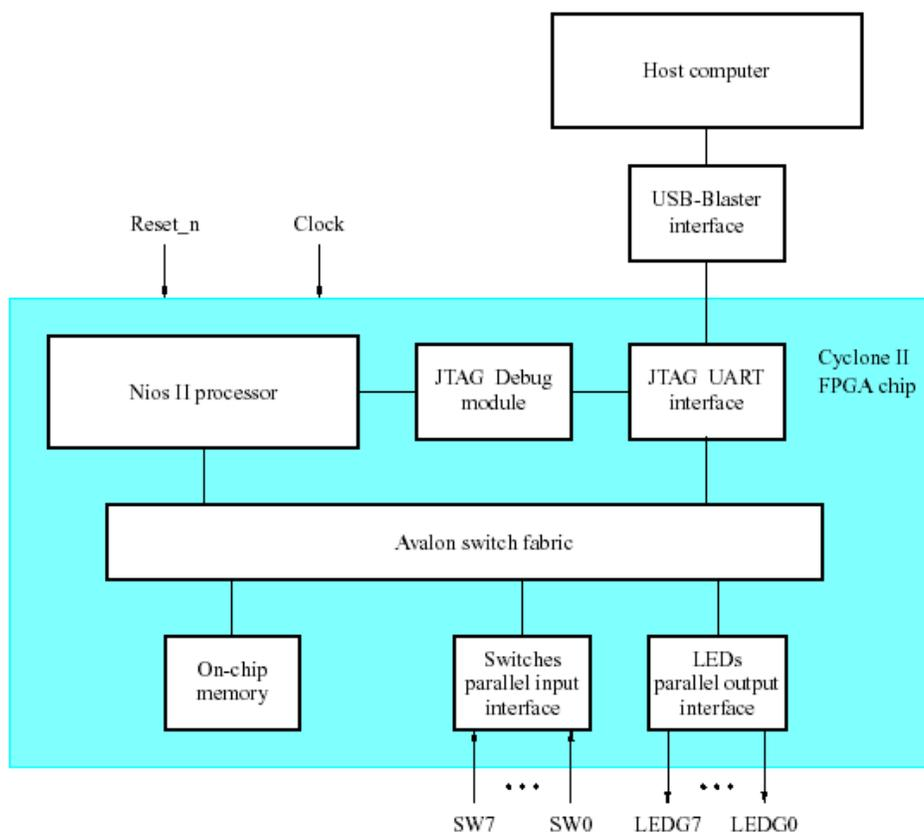
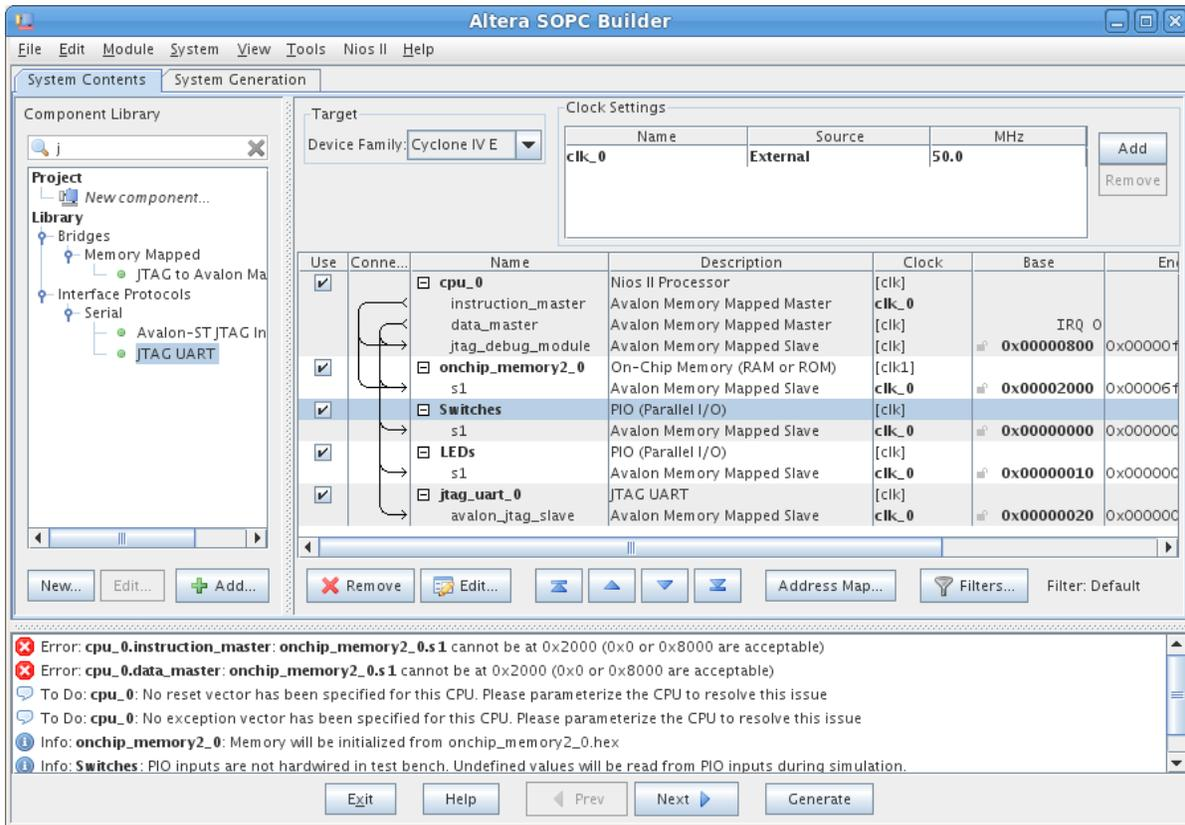

Figure 3: A Simple Nios II based Embedded Computer System.
Figure 14. The complete nios- system.
A simple Nios II based embedded system that will be implemented in this lab/tutorial on the DE2-115 board is shown in Figure 3. The Nios II processor and the interfaces needed to connect to other ICs on the DE2-115 board are implemented over the Cyclone IV E FPGA. These components are interconnected by means of an interconnection network called the Avalon Switch Fabric. The memory blocks in the Cyclone IV-E device can be used to provide an on-chip memory for the Nios II processor. The SRAM, SDRAM and Flash memory chips on the DE2-115 board are accessed through appropriate interfaces. Parallel and serial input/output interfaces provide typical I/O ports used in embedded computer systems. A special JTAG UART interface is used to connect to the circuitry that provides a Universal Serial Bus (USB) link to the host computer to which the DE2-115 board is connected. This circuitry and the associated software is known as *USB-Blaster*. Another module, JTAG Debug module, is provided to allow the host computer to control the Nios II system. It makes it possible to perform operations such as downloading programs into memory, starting and stopping execution, setting breakpoints, and collecting real-time execution trace data. All parts of the Nios II system implemented on the FPGA are defined by using a hardware description language. One can also use the SOPC Builder tool to implement the desired embedded system simply by choosing the required components and specifying the parameters needed to make each component fit the overall requirements of the system. In this lab/tutorial, we will also illustrate the capability of the SOPC Builder by designing the simple embedded system of Figure 3. The same approach can be used to design large and complex embedded computer systems.
Our example system of Figure 3 realizes a trivial task. Eight toggle-switches on the DE2-115 board, SW7-0, are used to turn on or off the eight green LEDs, LEDG7-0. The switches are connected to the Nios II system by means of a parallel I/O interface configured to act as an input port. The LEDs are driven by the signals from another parallel I/O interface configured to act as an output port. To achieve the desired operation, the eight-bit pattern corresponding to the state of the switches has to be sent to the output port to activate the LEDs. The Nios II CPU will perform this by executing a program stored in the on-chip memory. Continuous operation is required, such that as the switches are toggled the lights change accordingly. You will use the SOPC Builder to design the hardware depicted in Figure 3. Next, you will also assign the Cyclone IV E pins to realize the
10. The complete system is depicted in Figure 14. Note that the SOPC Builder automatically chooses names for the various components. The names are not necessarily descriptive enough to be easily associated with the target design, but they can be changed. In Figure 3, we use the names Switches and LEDs for the parallel input and output interfaces, respectively. These names can be used in the implemented system. Right-click on the pio_0 name and then select Rename. Change the name to Switches. Similarly, change pio_1 to LEDs.